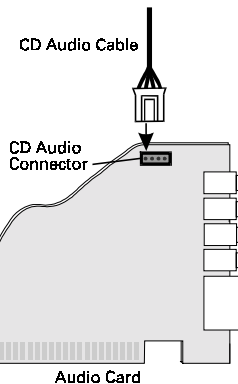

Figure 2-18: Connecting the CD audio cable to the audio card.
2. If you have an audio card installed in your system, connect the CD audio cable to the CD Audio Connector on the audio card as shown in Figure 2-18.